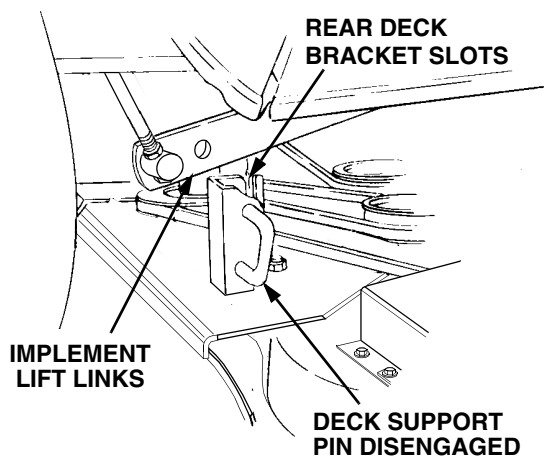

Figure 31
6. If not already done, pull the deck support pins outward, turn downward and release so both spring-loaded pins are held in the disengaged position against the outer surface of the deck brackets (See Figure 31).